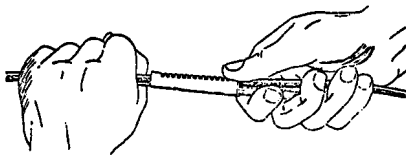

FIGURE 5. Obtaining Proper Sag
- f. Where necessary to adjust slack, slip the wire through the loose shell until the proper amount of sag has been secured. During this operation, hold the shell in this position with the thumb, as illustrated in Figure 5.